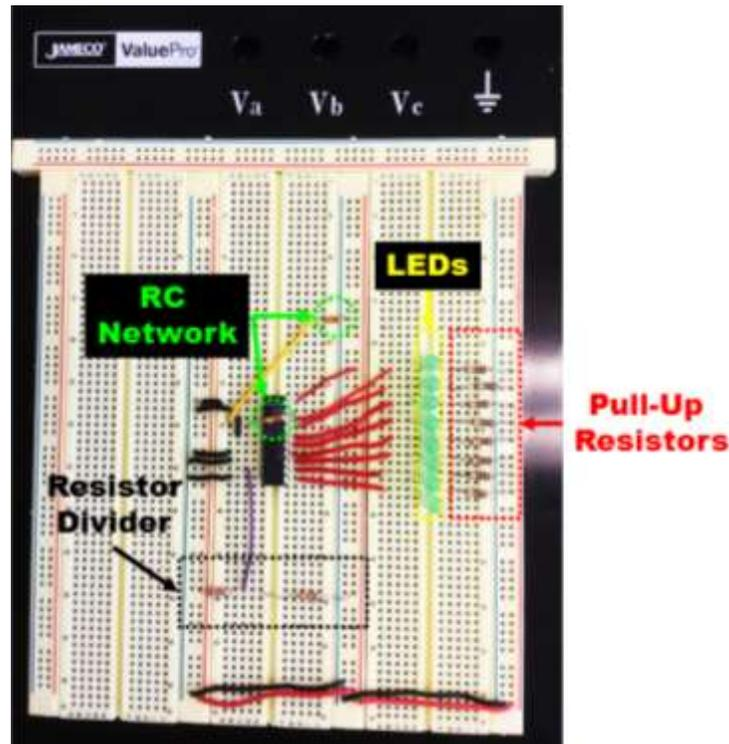

Fig. 3. Photograph of the implemented system on the breadboard.
The schematic of the final system is shown in Fig. 2. Also, the picture of the real implementation is shown in Fig. 3.
- VIII) Place 8 LEDs on your breadboard with appropriate space between them. See picture in Fig. 3.